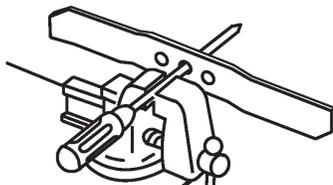

Figure 25
1. Check the balance of the blade by placing the center hole of the blade over a nail or a screwdriver shank clamped horizontally in a vise (Fig. 25).